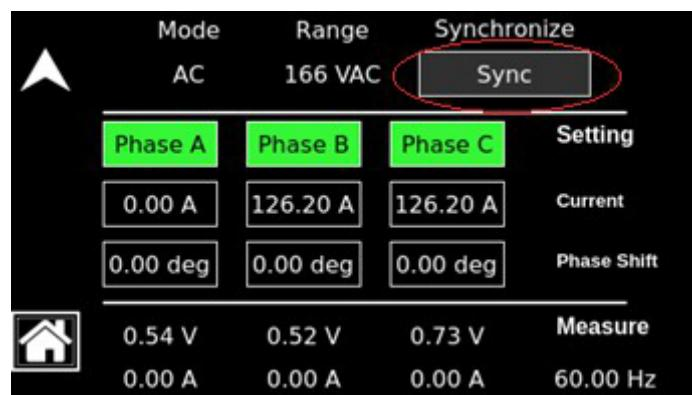

Figure 10-1: Dashboard Screen—Electronic load
6. Query the below command for getting the status of the Sequoia unit. `SYNC:STAT?` This should give a response as IDLE. Synchronize the Sequoia unit with the Voltage Source by sending the below command or pressing the Sync button from the front panel, refer to the Figure 10-1.
Synchronize the Sequoia unit with the Voltage Source by sending the command `SYNC:START` or pressing Sync button from the front panel, refer to Figure 10-1.